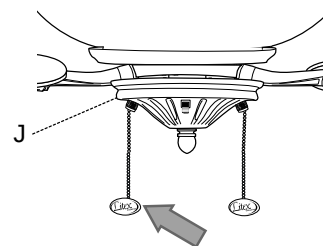

Fig. 2
2. Pull the light pull chain, labeled LIGHT, to turn the light ON or OFF. [Fig. 2]